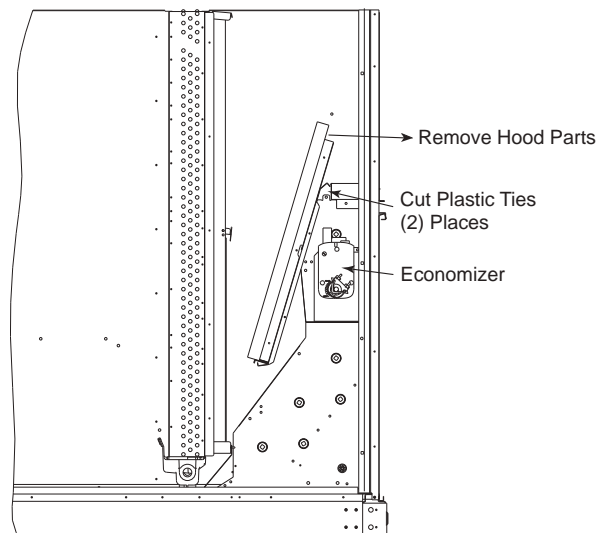

Fig. 19 — Economizer Hood Package Location
3. Locate and cut the (2) plastic tie-wraps, being careful to not damage any wiring. (See Fig. 19.)